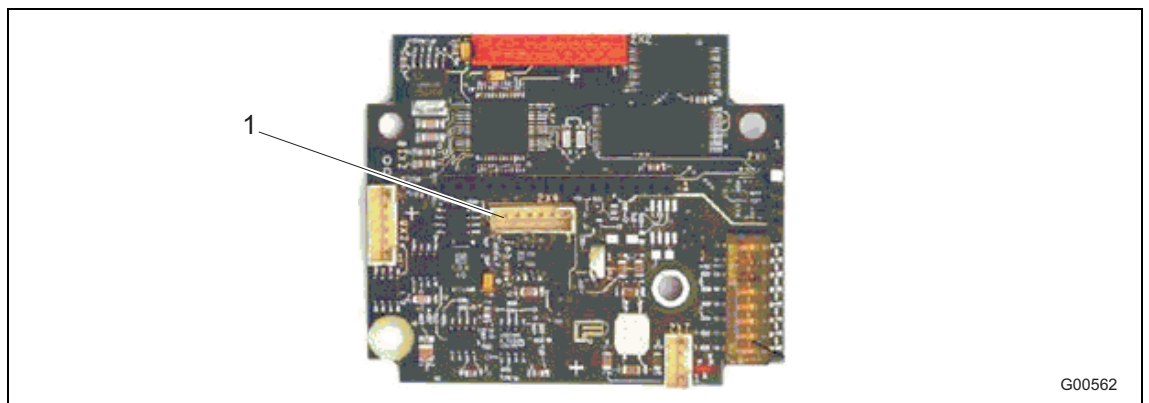

Fig. 26: Design without display
3. Install the display unit (see Fig. 26: Design without display) and attach with four screws (see **Fig. 17: Display unit**).